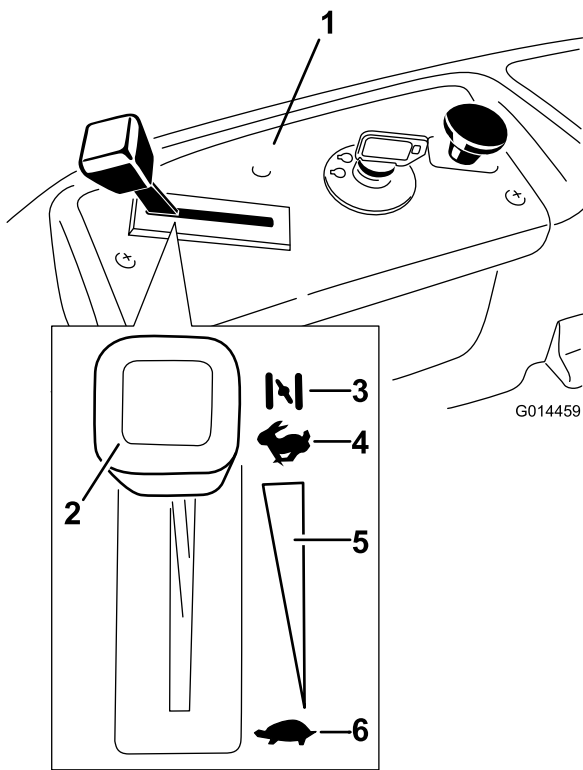

Figure 13
3. Move the throttle lever to Choke before starting a cold engine (Figure 13).
5. After the engine starts, move the throttle lever to Fast (Figure 13). If the engine stalls or hesitates, move the throttle lever back to Choke for a few seconds. Repeat this as required.
3. Turn the ignition key to Off (Figure 13) and remove the key.